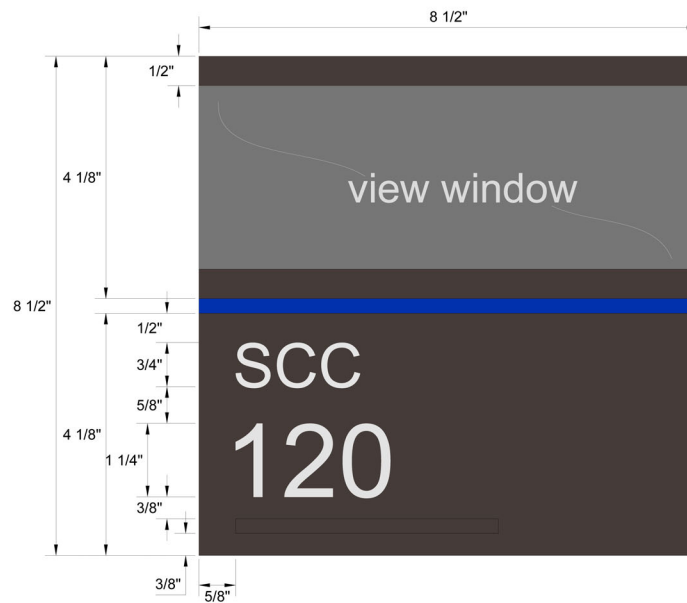

Figure 10.9
- 10.9. UMD A1 sign elevation shall comply with figure 10.9.